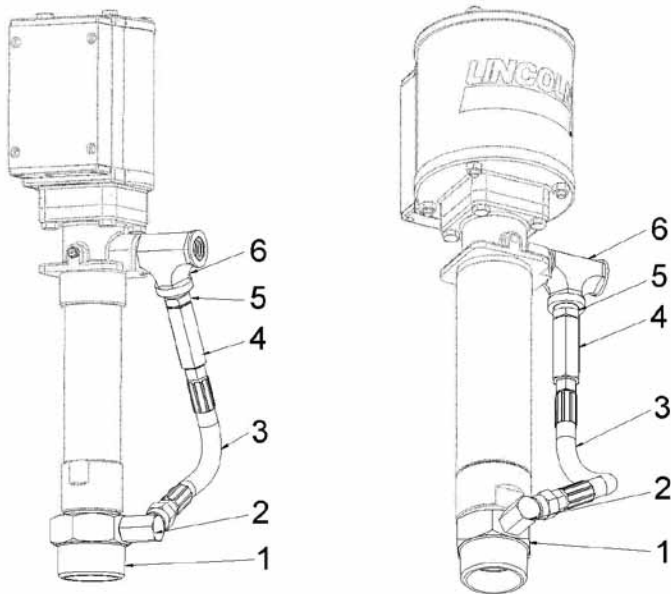

Figure 2 Possible Pressure Relief Kit Installation Orientations
The orientation of pump outlet, tee branch and union swivel should be taken into consideration to accommodate the pump tube length versus the length of hose. Figure 2 shows some possible installation configurations.
**Note:** Figure 2 shows kits being installed on PMV pumps.